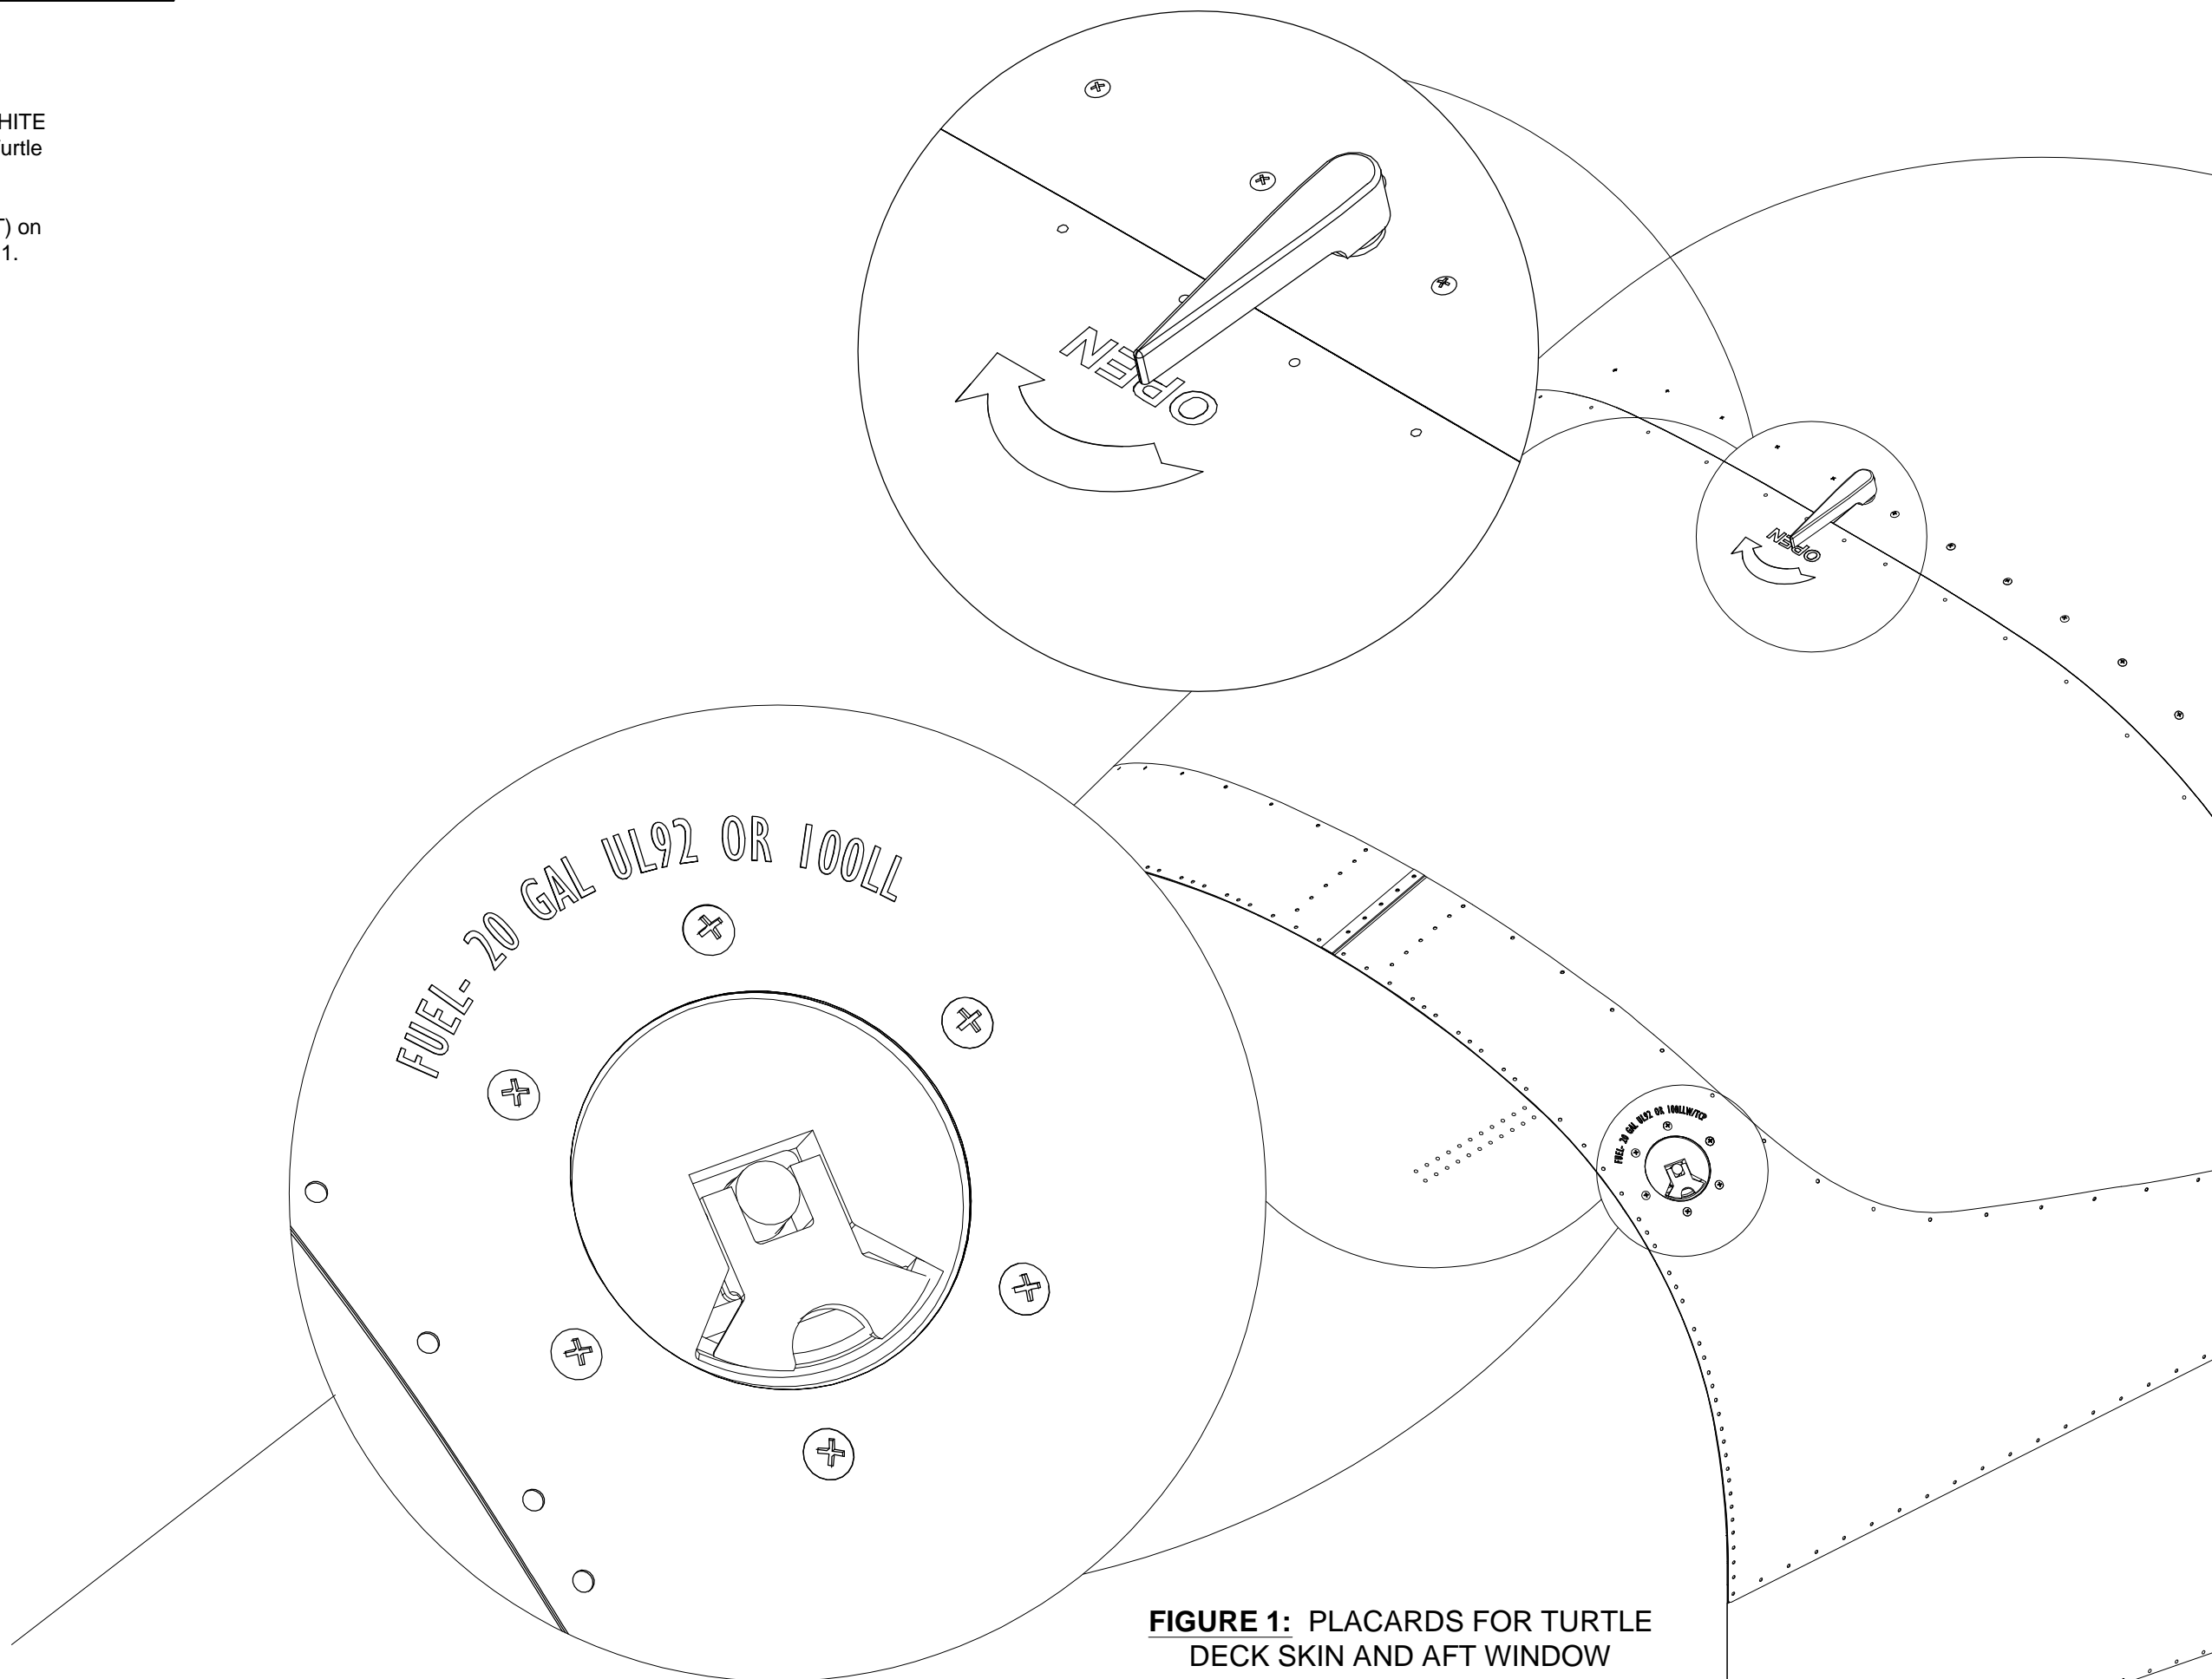

FIGURE 1: PLACARDS FOR TURTLE DECK SKIN AND AFT WINDOW
Step 1: Install F-1200B BLACK or WHITE Fuel Placard on the F-1277-R FWD Turtle Deck Skin. See Figure 1.
Step 2: Install the PLA OPEN (RIGHT) on the F-1277A Aft Window. See Figure 1.